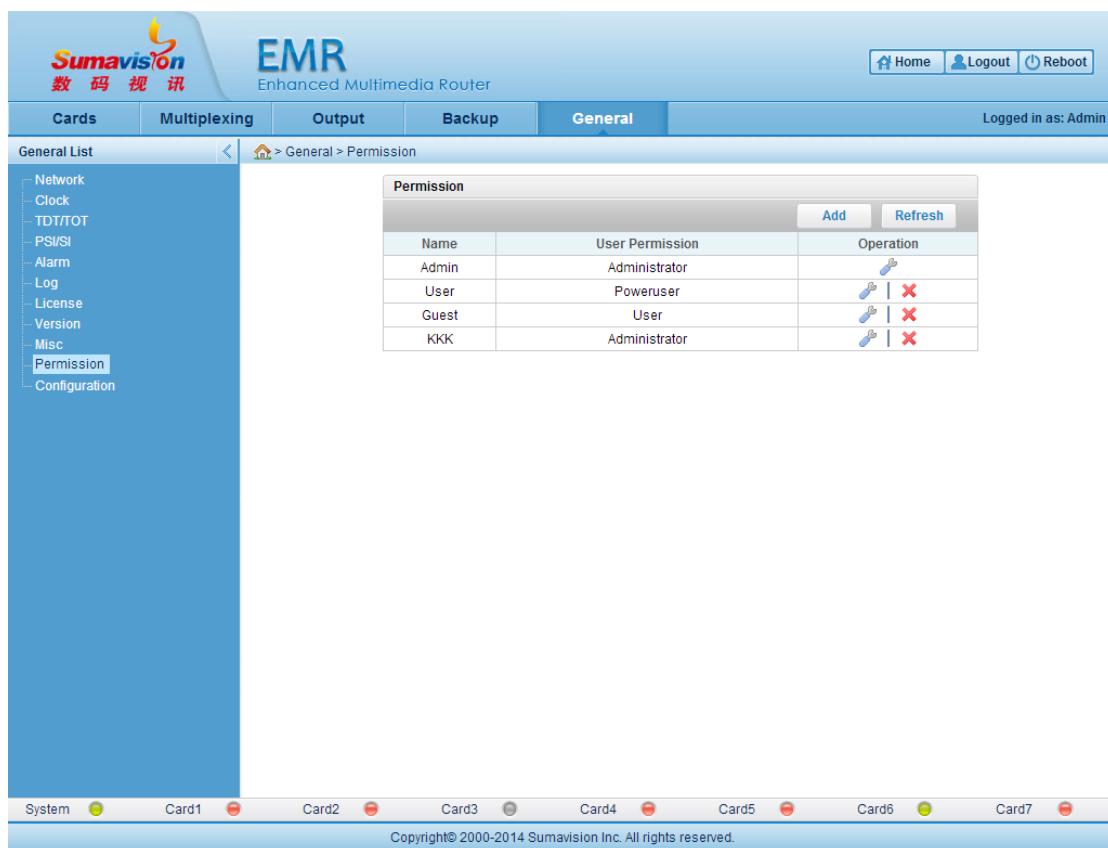

Fig. 5-12 WEB Management Permission Configuration
- Permission: add or delete three kinds of users, including “Administrator”, “Power user” and “User”, as shown in Fig. 5-12 WEB Management Permission Configuration.